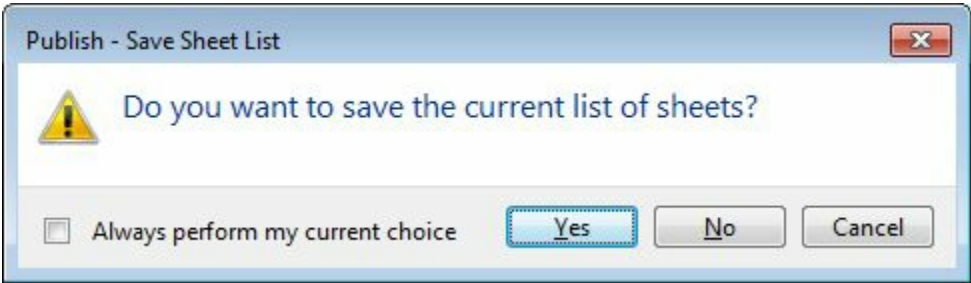

Figure-40. Publish Save Sheet List dialog box
- Browse to the desired location and then click on the **Select** button. If you have unsaved sheet list then the **Publish - Save Sheet List** dialog box will be displayed as shown in Figure-40.